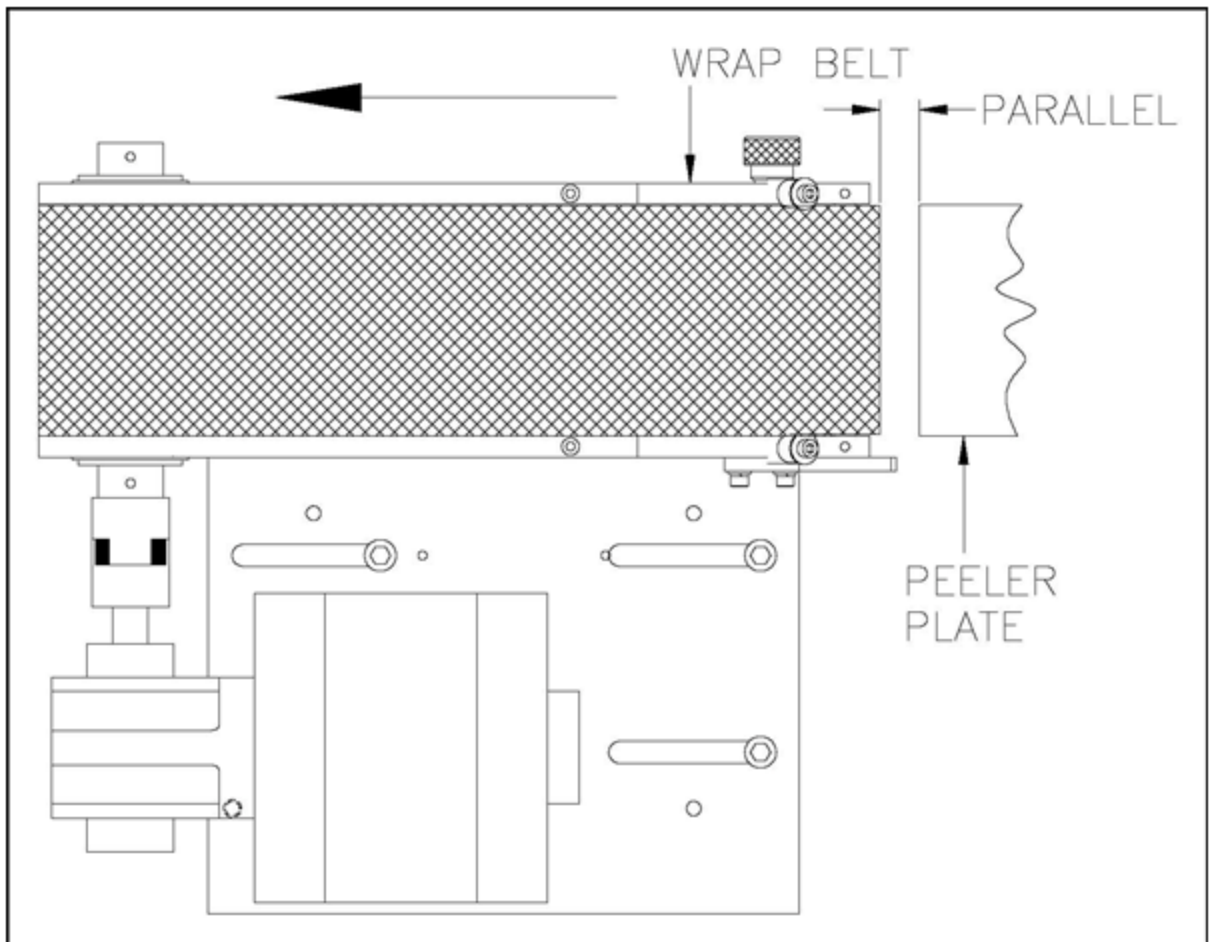

Figure 55 Peeler Plate Alignment
3. Adjust the tilt of the applicator so that the peeler tip is parallel to the wrap belt. (See Figure 55). Lock in position.